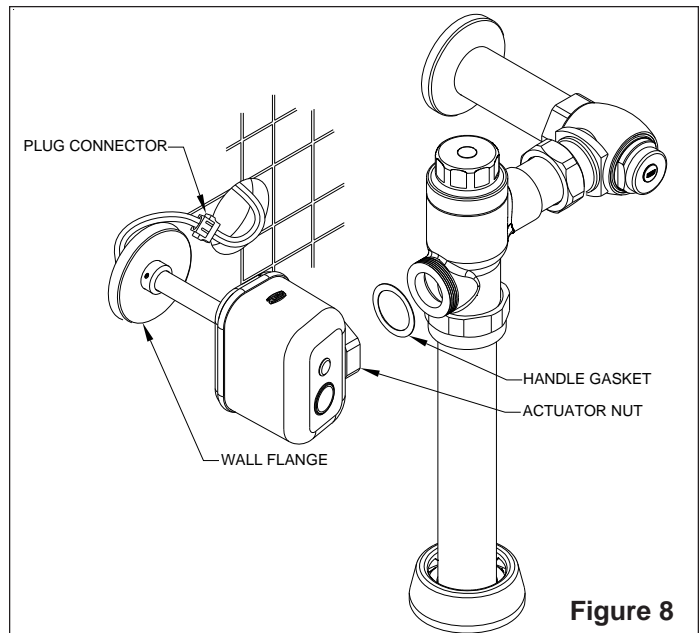

Figure 8
STEP 8 - Actuator Installation (Figure 8)